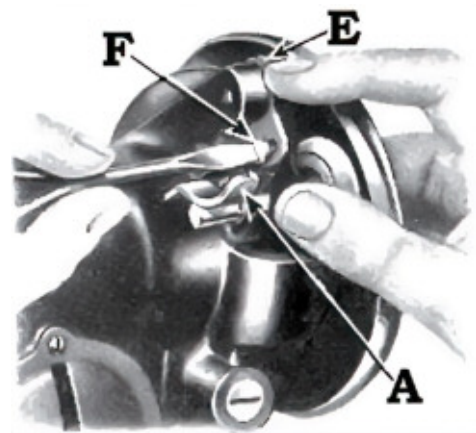

FIG. 51. ADJUSTMENT OF THE BOBBIN WINDER
If the pressure of the bobbin winder pulley, against the hub of the balance wheel, is insufficient for winding the bobbin, press down the bobbin winder until the bobbin winder stop latch (A) drops down and holds it, then loosen the bobbin winder tension bracket screw (F). With the forefinger, push back the upper end of the bobbin winder tripping arm (E) as far as it will go, as shown in Fig. 51 and, at the same time, press the bobbin winder pulley against the hub of the balance wheel, then tighten the bracket screw (F).